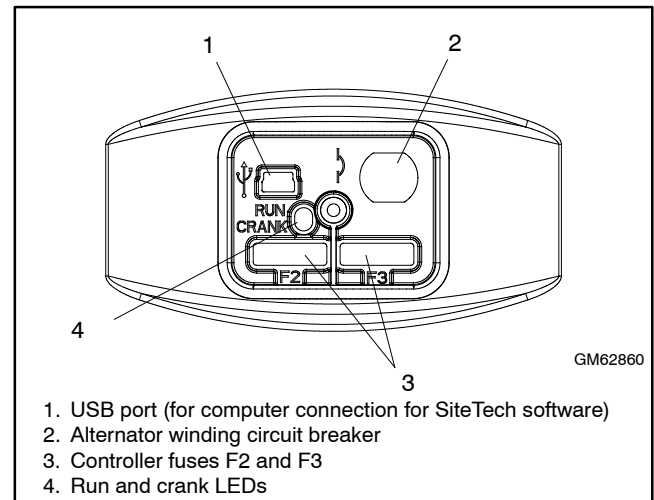

Figure 3-1 Controller Service Access (cover removed)
- **Blown fuses.** Two controller fuses are located in the controller's service access area. See Figure 3-1. A battery charger fuse is located in the positive battery lead. Always check for and replace any blown fuses before replacing other components. Identify and correct the cause of the blown fuse. See Section 5.14.2 for fuse part numbers.
The controller fuses and alternator winding circuit breaker are accessible from the front of the controller. Remove the service access door to reach the circuit breaker and fuses. See Figure 3-1.